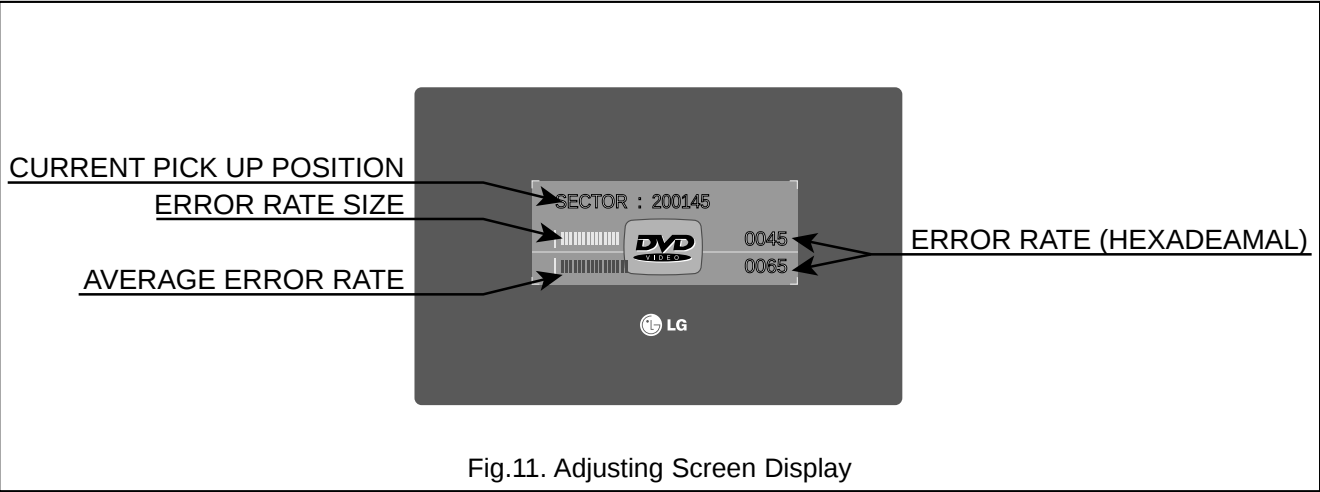

Fig.11. Adjusting Screen Display
- 2. Wait Until the Sector Display is about 200,000 (Fig.11)